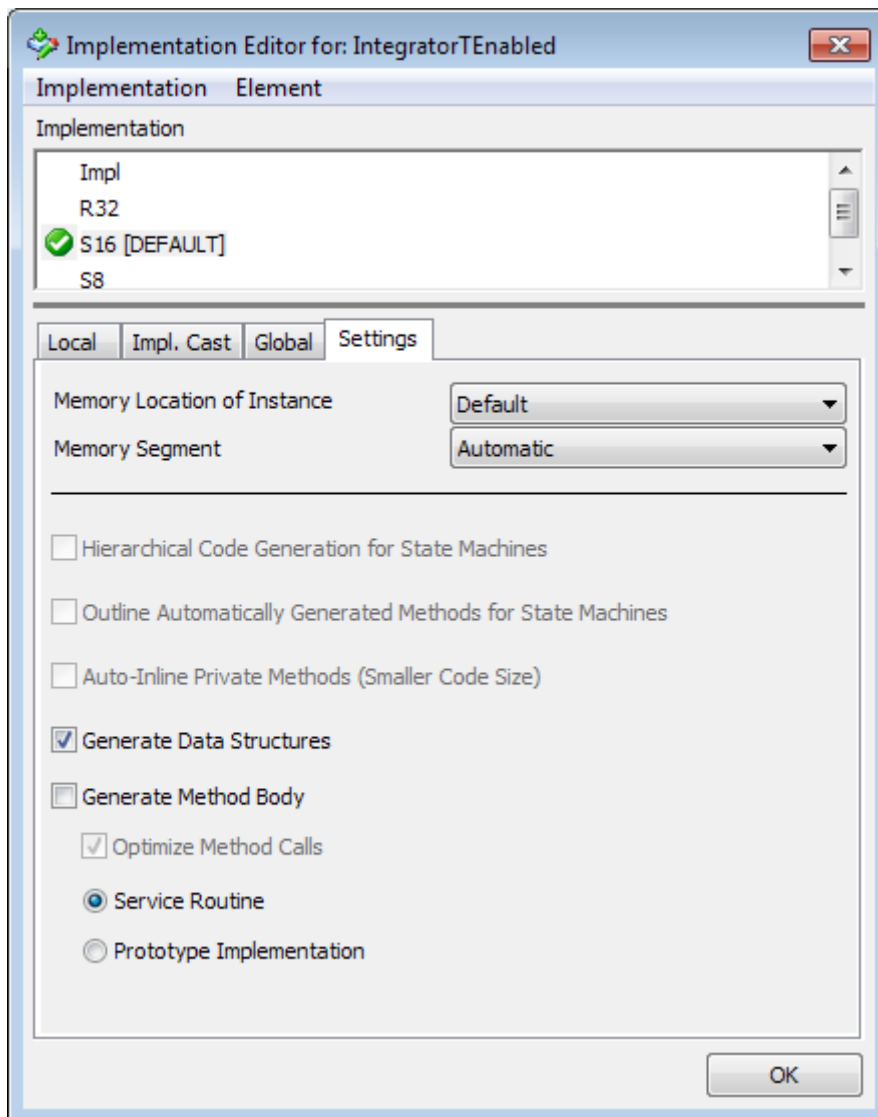

Figure 8.1: Class configured for methods to be implemented as service routines
**Service libraries** also provide ASCET class models, but typically with methods implemented as services as shown in Figure 8.1 on page 70. This means that a service library defines only the *interface* between ASCET and some externally provided implementation of the functionality. The library is therefore not self-contained. If you want to use a service library, you will need both the ASCET model *and* the external implementation of the library (either as C source code or a pre-compiled library).